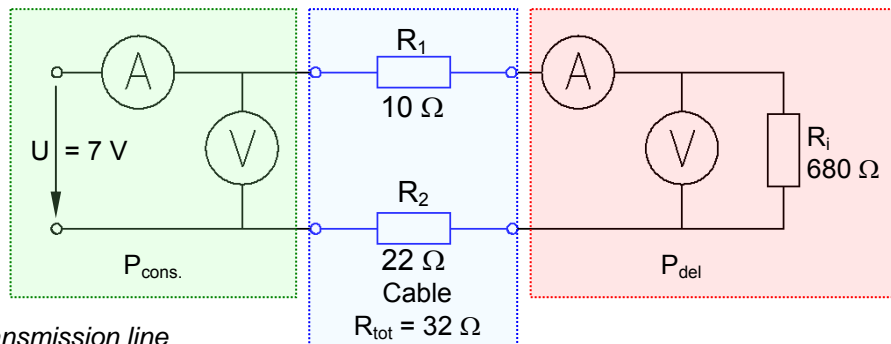

Fig. 8.2.1: Simulation of a transmission line
This application is simulated with resistors on the Electronic Circuits Board as shown in Fig. 8.2.1. The cable resistance is distributed equally along the supply and return cables. Since there are no other resistors available, the total resistance of the cable simulation (Fig. 8.2.1) is made up with 2 resistors from the E12 preferred value range.
- Assemble the simulation circuit shown in Fig. 8.2.1 on the Electronic Circuits Board.